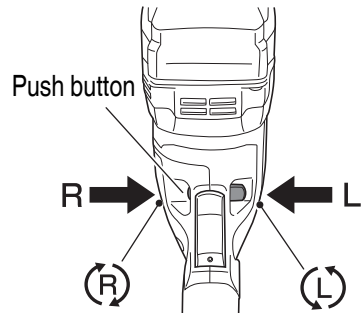

Fig. 5
6. Confirm the direction of bit rotation (**Fig. 5**)